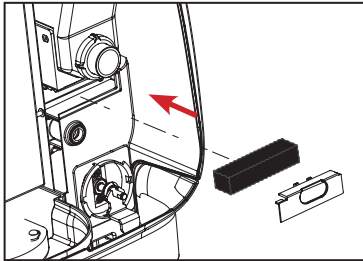

Fig.2
1. Replace the filter and its cover. (See Fig.2)